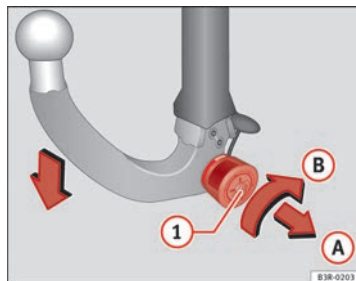
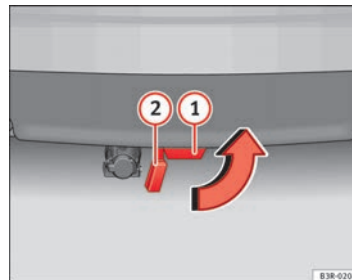

Fig. 162 Removable towing bracket: Removing the ball joint
Fig. 163 Rear bumper: fitting the cover piece
- Insert the key in the lock ① ⇒ Fig. 162 on the knob.
- Take hold of the ball joint and pull out the knob in direction ①.
- Keep hold of the knob and turn it as far as it will go in direction ②.
- Pull the ball joint down out of the mounting fixture ① ⇒ Fig. 163. The cover piece will cover the mounting fixture automatically ②.